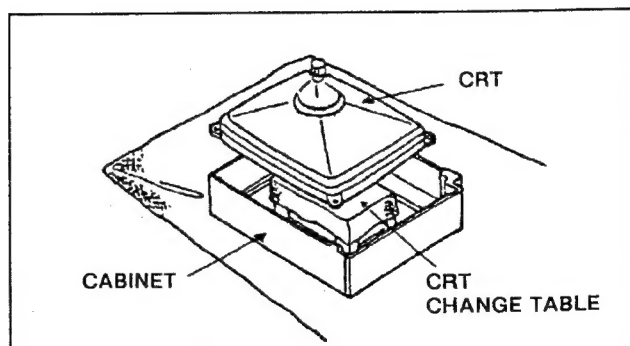

Fig. 5
- 4. After four nuts have been removed, put the cabinet slowly on cloth (At this time, be carefully so as not to damage the front surface of the cabinet) shown in Fig.5.